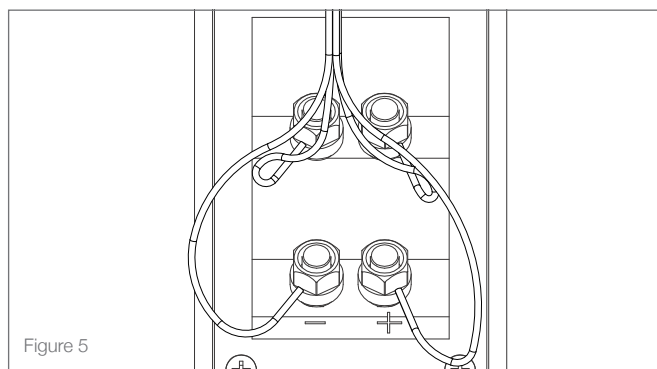

Figure 5
1. Prewire to the woofer location - use provided strain-relief (see figure 5).